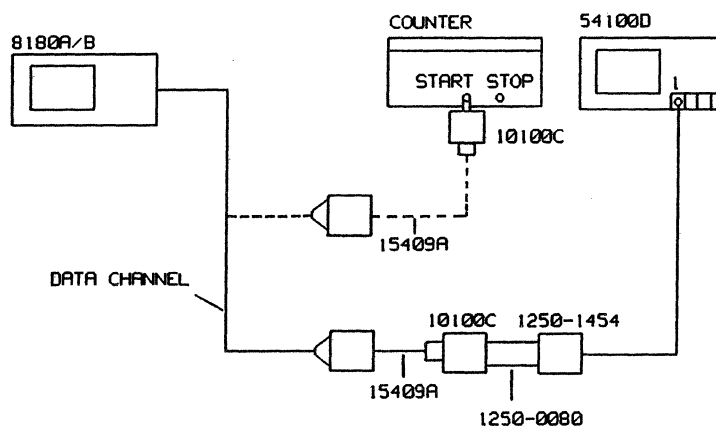

Figure 6-6. Test Setup for the Timing Channel Width Test
6. Connect the equipment as shown in Figure 6-6 and press RUN.